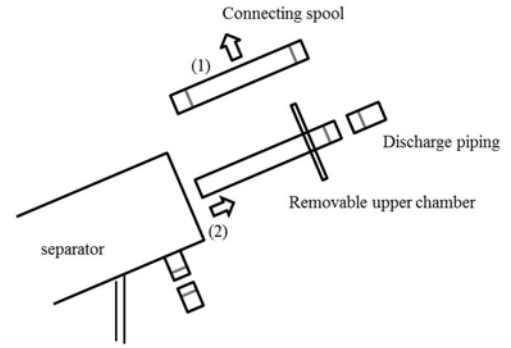

Fig. 14 JPX models. Removable/accessible upper chamber.
JPX High Performance Liquid-Solid Separators are equipped with a removable/accessible upper chamber. To facilitate the removal of the upper chamber (2) for maintenance purposes, it is recommended a connecting spool (1), sold separately, be installed in the discharge piping immediately downstream of the separator. See figures 14 & 15.